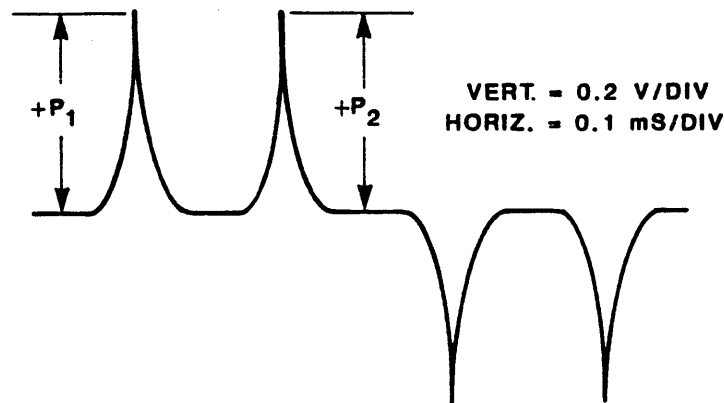

Figure 5-32.
- Refer to Figure 5-32 and measure the amplitude difference between the two positive peaks, +P1 and +P2. With the head properly positioned vertically on the tape, the amplitude of the least positive peak (+P1 or +P2) will be within 80% of the amplitude of the most positive peak (+P1 or +P2). 80% corresponds to 0.002" tracking error.